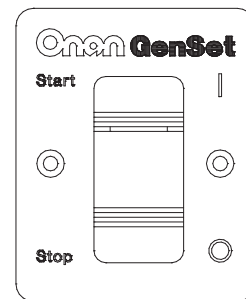

FIGURE 4. REMOTE SWITCH
- Remote switch / status lamp (Figure 4).